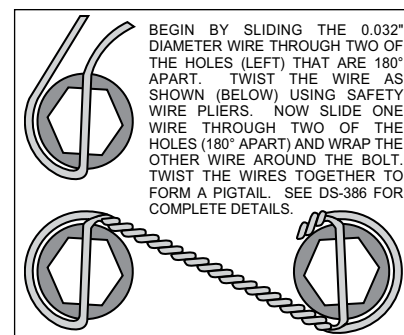

Figure 3. Safety Wire Diagram
- The flat caliper mounting bracket (1) should be installed first with clean, dry threads on the mounting bolts. Install the bracket by sliding bolt (2) through washer (3) through the top hole of the mounting bracket (1) and into the upper hole on the spindle. Slide bolt (4) through the small hole on the spindle from the backside and through the corresponding hole on the bracket (1). Slip flat washer (5) onto the bolt and secure with lock nut (7). Finger tighten only at this time. The bracket must tighten squarely against the outboard side of the spindle body. Inspect for interference from casting irregularities, machining ridges, burrs, etc. Later, after the caliper, pad, and rotor alignment has been checked, and any necessary shims have been put in place, the threads of mounting bolt (2) should be coated with red *Loctite*® 271 and torqued to 120 ft-lbs. Lock nut (7) will be torqued to 65 ft-lbs.
- Install wheel studs (8) into the hub (9). Torque to 77 ft-lb. **NOTE:** There are two five lug patterns in the hub (5 x 4.50 and 5 x 4.75). Make sure of the correct hole pattern for the correct wheel application before installing studs into hub.
- Pack the large inner bearing cone (10) with high temperature disc brake bearing grease (available from your local auto parts store) and install into the backside of the hub (9).
- Install the grease seal (11) by pressing into the backside of the hub (9).
- Pack the small outer bearing cone (17) with high temperature disc brake bearing grease and install into front of hub (9). Slide the hub assembly (8, 9, 10, 11 and 17) onto the spindle. Secure using spindle washer (18), stock adjusting nut and nut locking device. Bearing adjustment: Tighten the nut while turning the hub. When there is a slight bind on the bearings, they are seated correctly. Back the nut off about 1/6 to 1/4 of a turn, or sufficiently to allow .001" to .007" end play. **WARNING:** Failure to back off adjusting nut could cause bearing to run hot and be damaged, which could cause the wheel to lock or come off.
- Install the o-ring (19) on the dust cap (20), and screw dust cap assembly onto the hub (9). Friction created by the o-ring (19) on the dust cap (20) keeps it from unscrewing.
- With the larger I.D. side of the rotor (12) facing away from the hat (13), bolt rotor (12) to hat (13) through the backside of the rotor using washers (14) and bolts (15). Apply red *Loctite*® 271 to the bolt threads and torque to 155 **in-lb** using a criss-cross pattern. For an added measure of security, the bolts may be safety wired using standard 0.032 inch diameter stainless steel safety wire as shown in Figure 3. Please refer to Wilwood's data sheet DS-386 (available at www.wilwood.com/Pdf/DataSheets/ds386.pdf) for complete safety wire installation instructions.
- Slide the rotor/hat assembly over the studs (8) in the hub (9) taking care to align the small countersunk holes in the hat (13) with the small threaded holes in the hub (9). Install three flat head socket head screws (16) through the small holes in the hat (13) and torque to 85 **in-lb**.